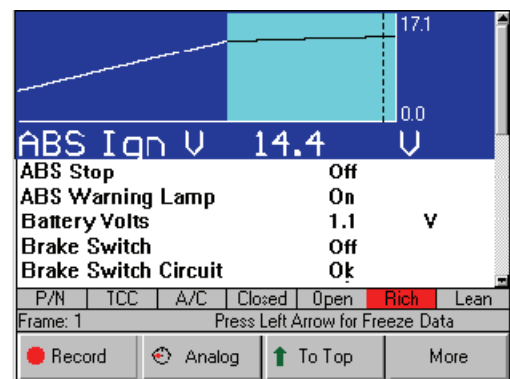

Figure 7.16: Datastream Screen - Zoom Function
- 4 Press the **ENTER** key. This magnifies the selected line, as shown in Figure 7.16.